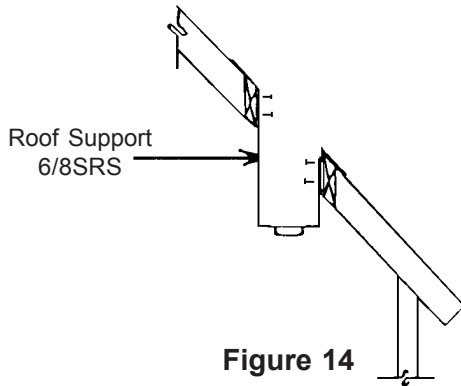

Figure 14
2. Determine the roof pitch and make a template to match. Mark this angle on the roof support (6SRS, 8SRS) and cut to fit using tin snips. Nail through all four (4) sides from above into the framing, using 8d nails, with at least two (2) per side (see Figure 14).